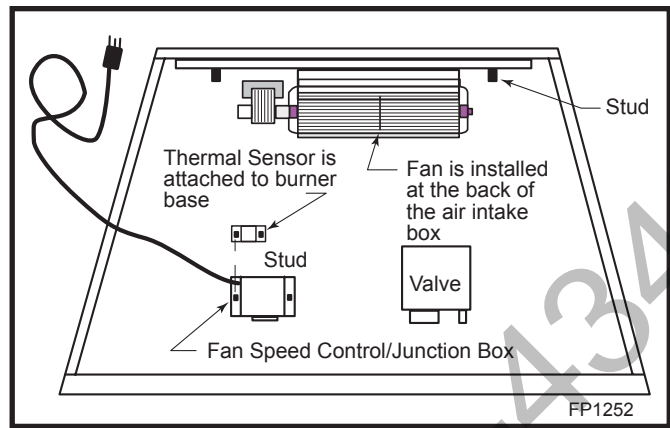

Fig. 13 Fan location.
Should this fan require servicing, the power supply must be disconnected. For rewiring of any replacement components refer to Figures 13 & 14.
5. Remove the fan mounting nuts (2). (Fig. 13)